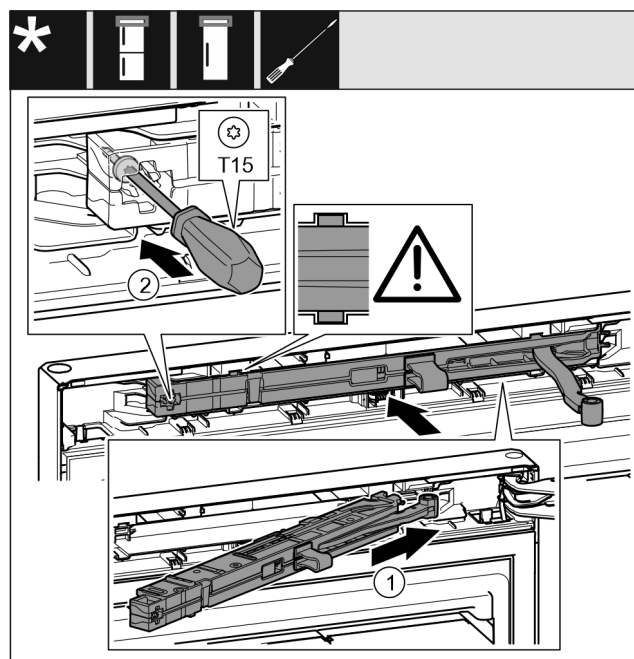

Fig. 23
- On the swap bearing block side, slide the closing damper unit Fig. 23 (1) into the recess at an angle up to the stop.
- Use a screwdriver to tighten the screw Fig. 23 (2).